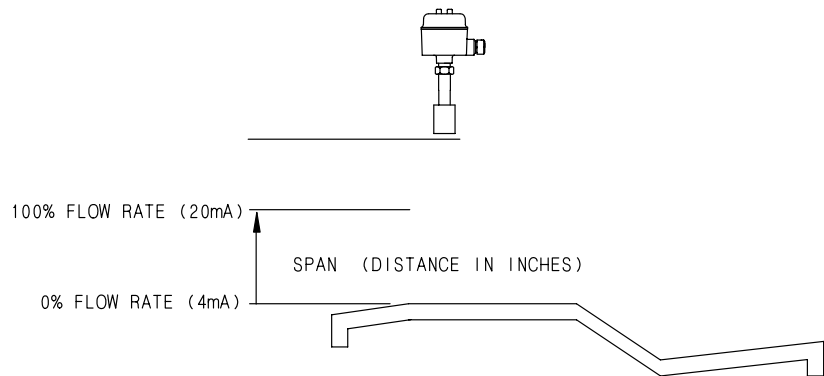

Figure 4-3
- b. Now set the Span switches in inches (to the nearest 0.1 inch) to equal the distance from the zero flow point (e.g. bottom of the flume) to the level which represents 100% flowrate (20 mA). See *Figure 4-3*.